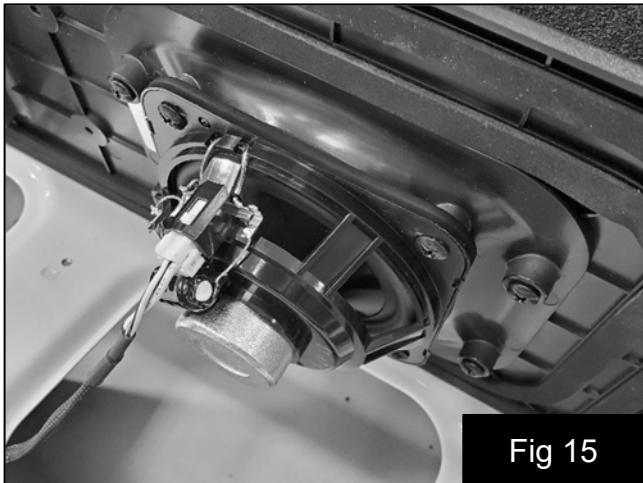

Fig 15
26. Connect the speaker wires to the speakers. Fig. 15